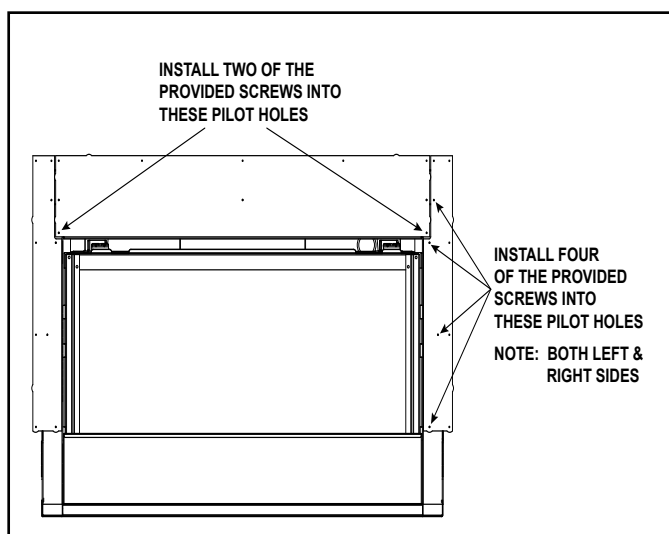

Figure 6.7 Installation of the Side Non-Combustible Components
4. Further secure the top non-combustible board by installing screws into the pilot holes located in the upper left and right corners as shown in Figure 6.7.
5. Install the left and right non-combustible components with four of the provided Phillips screws. See Figure 6.7.